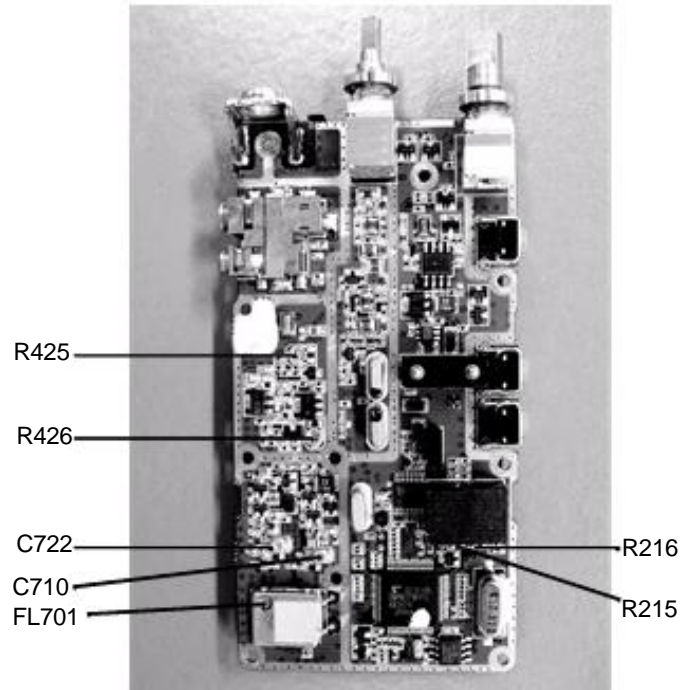

Figure 3-5 Bottom Side of PCB
3. Using the ceramic tool, adjust C710 to tune the voltage to 5.0V +/-0.1V (refer to Figure 3-5).
3. Using the ceramic tool, adjust C722 to tune the voltage below 5.0V +/-0.1V (refer to Figure 3-5).